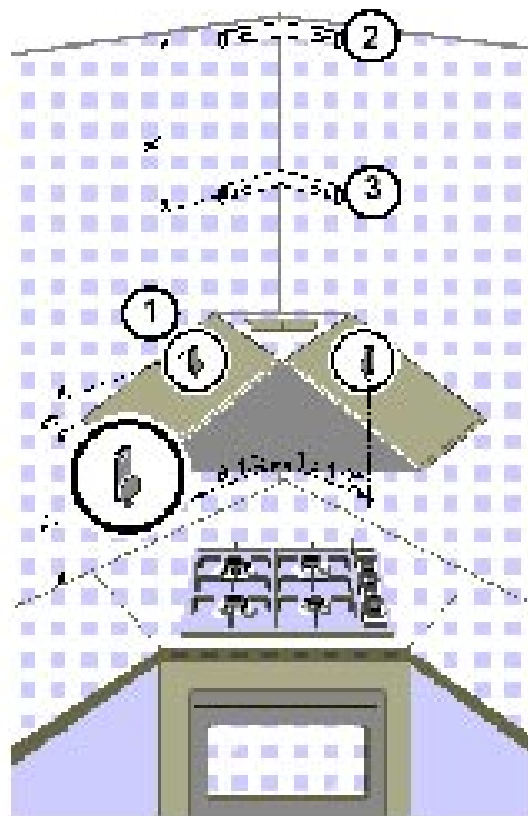

FIGURE 5
3. The canopy of the rangehood hangs from two mounting brackets (point 1 in FIGURE 5). If a backsplash is to be used with this rangehood, it must be installed before the rangehood. The height of the backsplash will determine the bottom edge of the canopy.
4. The chimney attaches to the wall by two mounting brackets (2 and 3 in FIGURE 5). The top bracket (2) must be installed 1/8" from the ceiling. The bottom bracket (3) must be installed at the bottom point of the upper chimney sleeve.